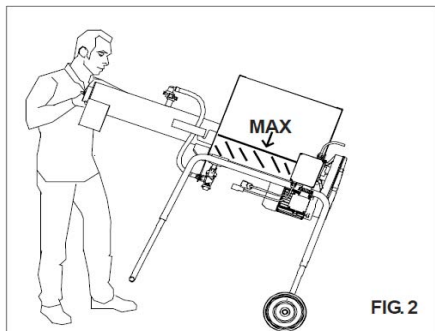
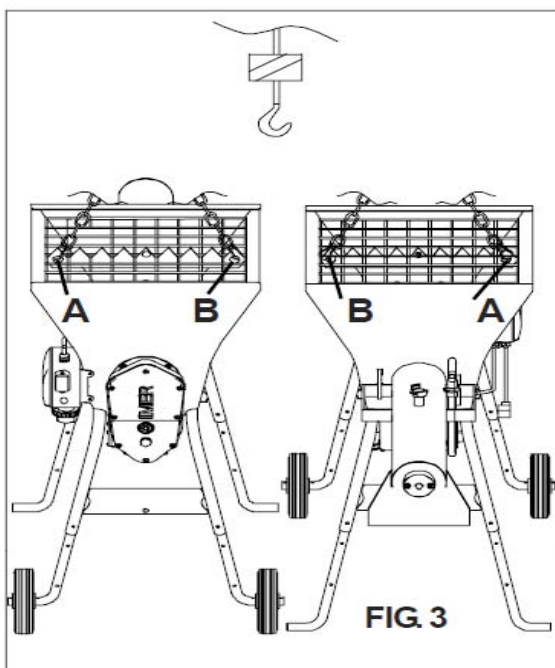

FIG. 2
FIG. 3
**8. TRANSPORT (see fig.2 and fig.3)**
Lift the mixer by means of the relative handles (fig.2) and push in the required direction.
**- CAUTION!** Never use points other than as specified in figure 3 to lift the machine
To lift the machine, use the four specific attachment rings (fig.3).